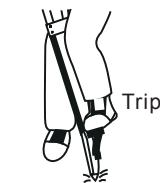

Fig.2
- (2) Adjust the tripod roughly horizontal, fix it to ground.(Fig.2)